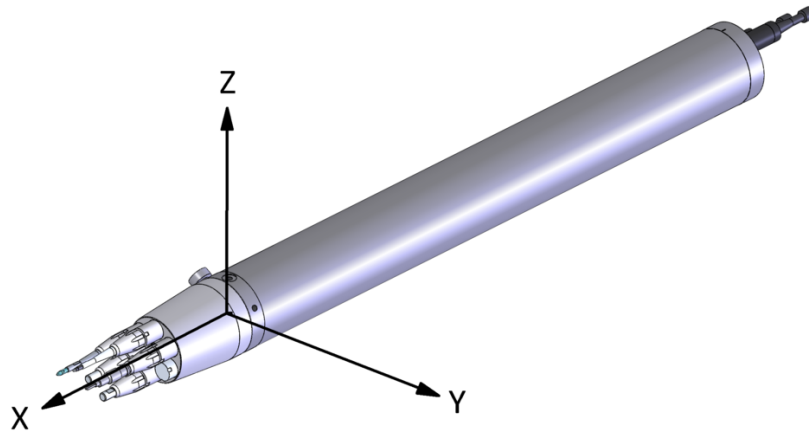
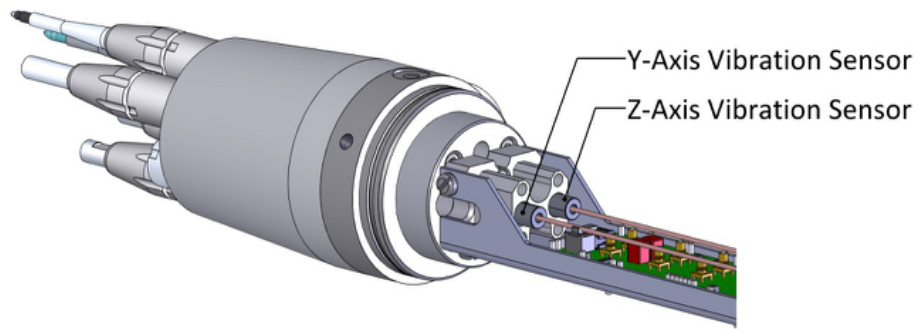

Figure 2: Coordinate System
Figure 4: Vibration Sensors
For **horizontal, or quasi-horizontal, profiling** (e.g. on a glider), the coordinate system (Figure 2) of the MicroRider-1000 is as follows:
- x-axis: Through the pressure port, positive away from the instrument body (i.e. +Z in Figure 2)
- y-axis: Defined as horizontal, positive in the “port” direction (same as for horizontal profiling, i.e. +Y in Figure 2)
- z-axis: Along the axis of the pressure case, positive upward from the front bulkhead to the rear bulkhead (i.e. -X in Figure 2)
Two vibration sensors are installed on a mounting block that is located inside the instrument (Figure 4). Each vibration sensor is a piezo-accelerometer that is fixed in position and cannot be adjusted or removed. The vibration sensors are alternating current (AC) sensors and are treated like shear probe channels. Their primary purpose is to sense the vibrations of the instrument in the y- and z-directions (Figure 2). Common-mode vibrations measured by both the vibration sensors and the shear probes (such as vibrations induced from the instrument) can be removed from the shear signals during post-processing of the data.
There is also a 2-axis tilt sensor installed on the power supply board that is located inside the instrument. The sensor measures the DC and low-frequency response to tilting and has an accuracy of $\pm 0.1^\circ$ over the oceanic temperature range. For the MicroRider-1000, the inclinometer measures the rotation about the x-axis (roll) and y-axis (pitch), where the axes are defined in Figure 2.